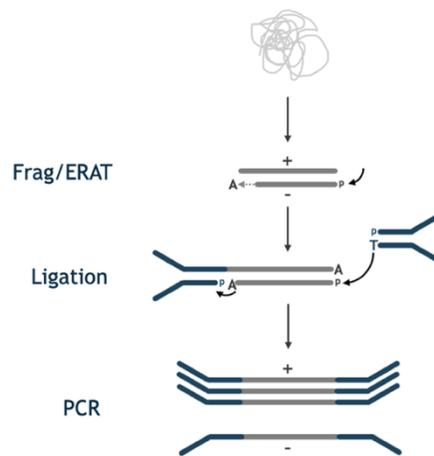

Figure 1: Workflow description for the SOPHiA GENETICS™ Dx Universal Library Prep.
SOPHiA GENETICS™ Dx Universal Library Prep contains all enzymes, associated buffers as well as index plates and ligation adapters necessary to perform the user workflow from extracted DNA to a non-enriched whole genome library suitable for enrichment and sequencing (**Figure 1**).
1. Fragmentation, end-repair, and A-tailing: enzymatic fragmentation of DNA and preparation of DNA ends for adapter ligation (Frag/ERAT in **Figure 1**).
2. Stubby Adapter or SOPHiA GENETICS™ CUMIN Adapters (abbreviated to CUMIN™ Adapters) ligation: ligation of Stubby Adapters or CUMIN™ Adapters to DNA fragments to prepare them for indexing and amplification (Ligation in **Figure 1**).
3. Indexing and amplification: amplification of adapter-ligated DNA fragments with barcoded PCR primers to prepare DNA for sequencing (PCR in **Figure 1**).